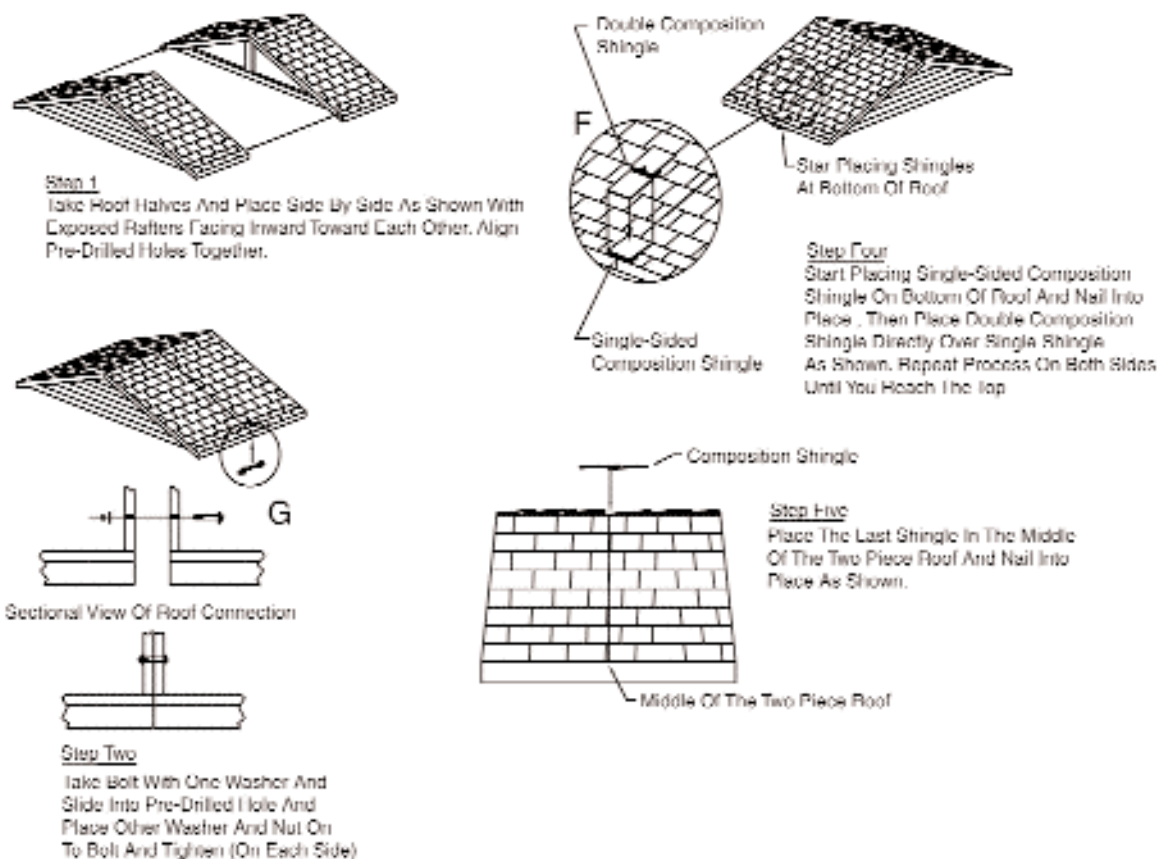

Figure 13. OD-200 assembly
**NOTE:** The following steps deal with Figure 13.